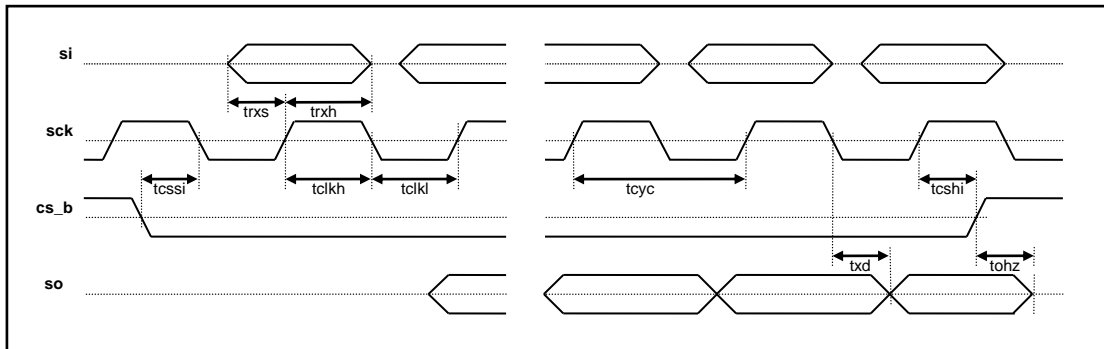

Figure 26. SPI (Serial Peripheral Interface) Timing - LSB First Mode
* For LSB first mode timing diagram, refer to Figure 26